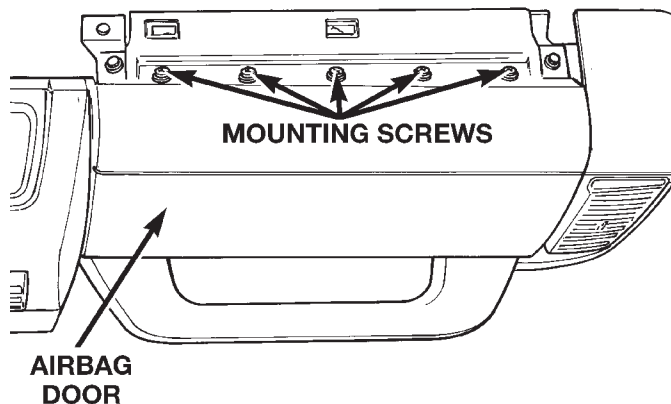

Fig. 13 Passenger Side Airbag Door Upper Screws Remove/Install
(1) Disconnect and isolate the battery negative cable. If either of the airbags has not been deployed, wait two minutes for the system capacitor to discharge before further service.
(2) Remove the passenger side airbag module from the instrument panel. Refer to **Passenger Side Airbag Module** in the Removal and Installation section of this group for the procedures.
(3) Remove the five screws that secure the passenger side airbag door upper flange to the top of the instrument panel (Fig. 13).